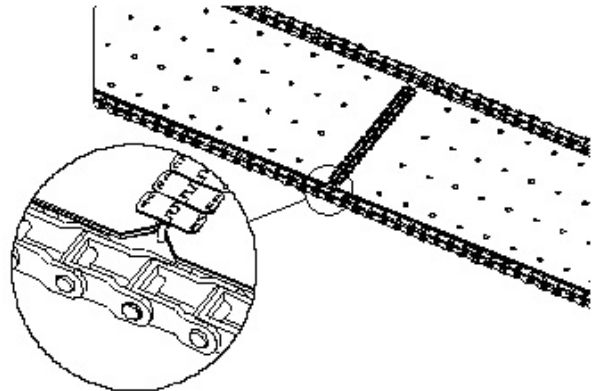

Figure 1 - Conveyor Belt Connecting Pin Installation
- Make sure belt connecting pin is positioned correctly as shown in Figure 1.